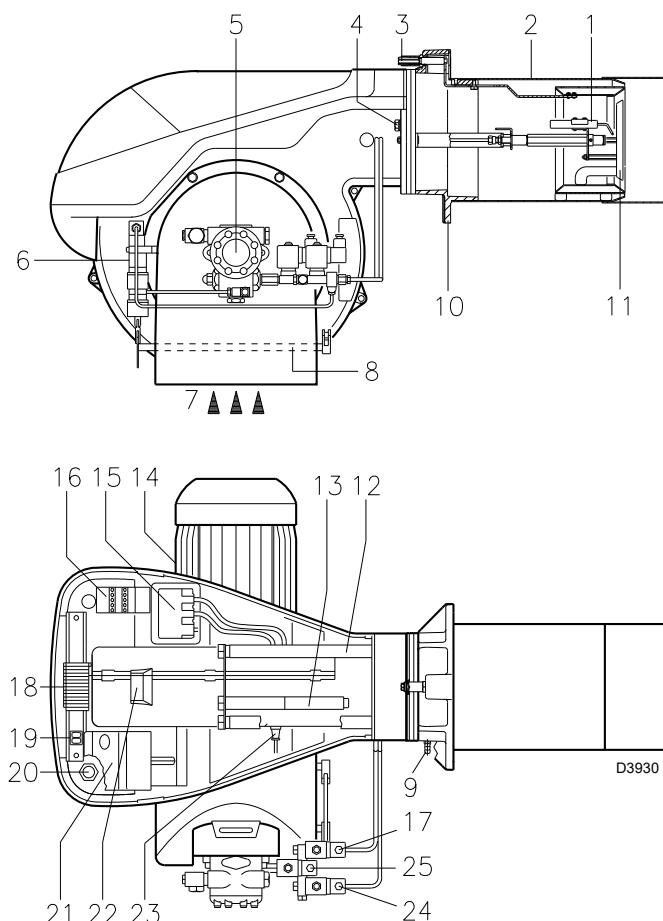

Fig. 1
Control box lock-out: if the control box 22)(Fig. 1) pushbutton (red led) lights up, it indicates that the burner is in lock-out.
Motor trip: release by pressing the pushbutton on thermal cut-out 17)(Fig. 1).
- 4 - Extensions 13)(Fig. 1) for slide bars 12)(Fig. 1)